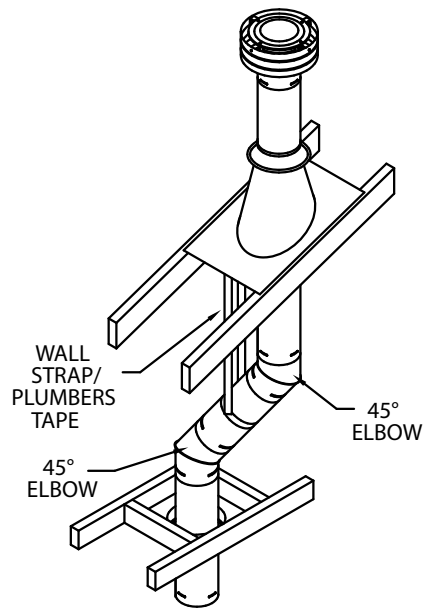

Figure 16
(2) If an offset is necessary in the attic to avoid obstructions, it is important to support the vent pipe in order to avoid excessive stress on the Elbows. Wall Straps or plumbers tape may be used for this purpose **(Fig. 16)**.